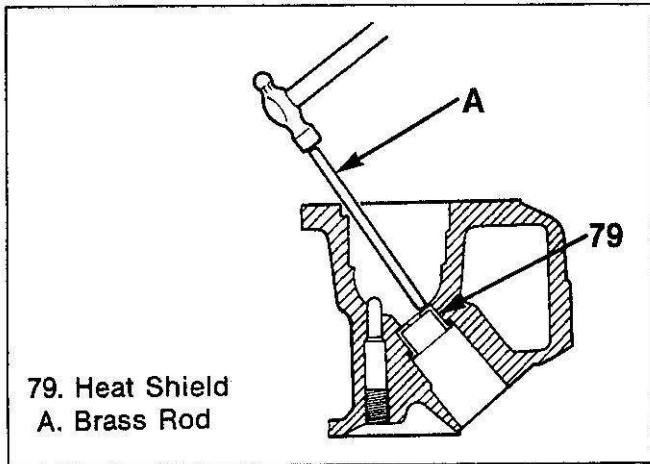

Figure 40a. Removing the Heat Shield
4. Insert a suitable round rod sizing 3 to 5 mm (0.1 to 0.2 in) in diameter into hot plug fitting hole and drive out the heat shield (79) (figure 40a).
5. Remove the washer (80).
6. Thoroughly clean the hot plugs (76) and combustion chamber.
7. Check hot plug (76) for crack or damage.
9. Drive the hot plug (76) into cylinder head by aligning lock ball in hot plug with groove in cylinder head.